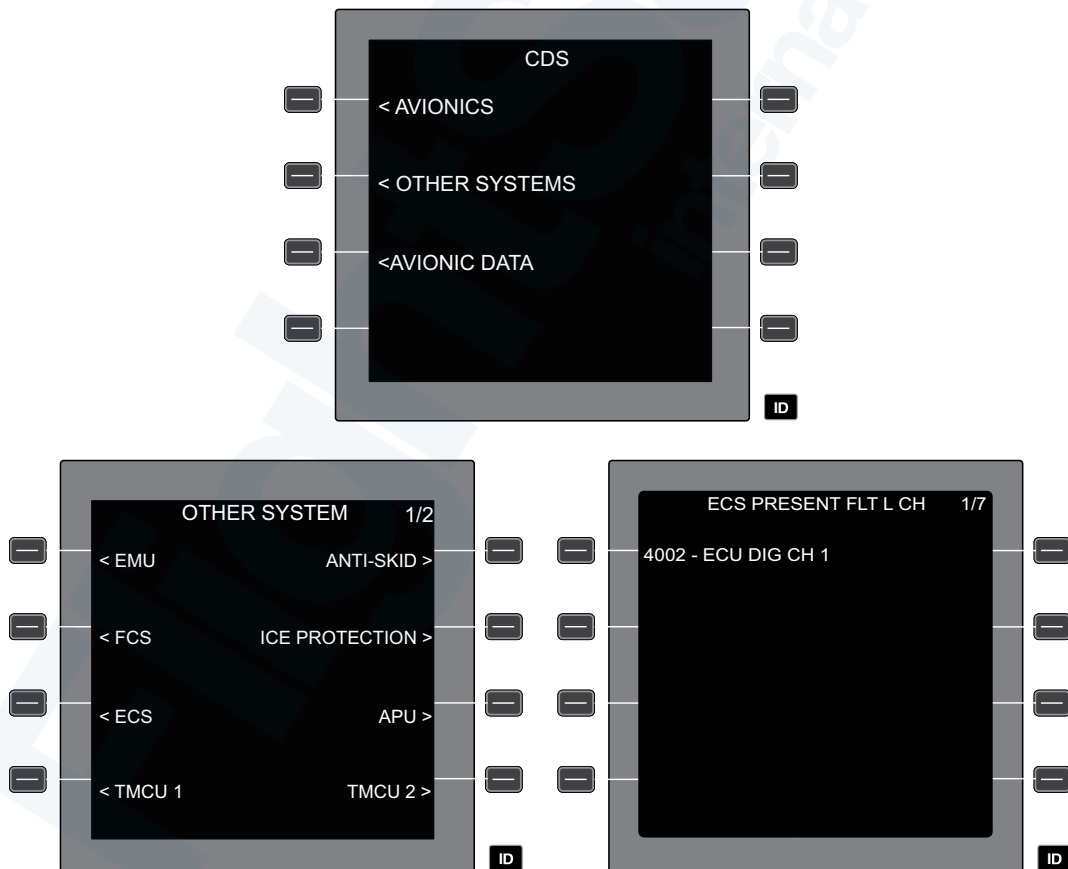

Figure 36-36. ARCDU, CDS (1 of 2)
- Figure 36-36. ARCDU, CDS (1 of 2).